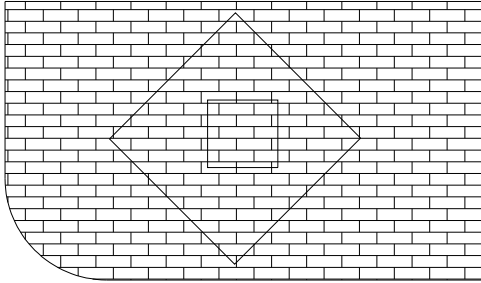

Figure 15.3: Hatching using the Ignore hatching type
- Ignore – toggle this on to hatch within the outermost boundary and ignore all other boundaries (see Figure 15.3).